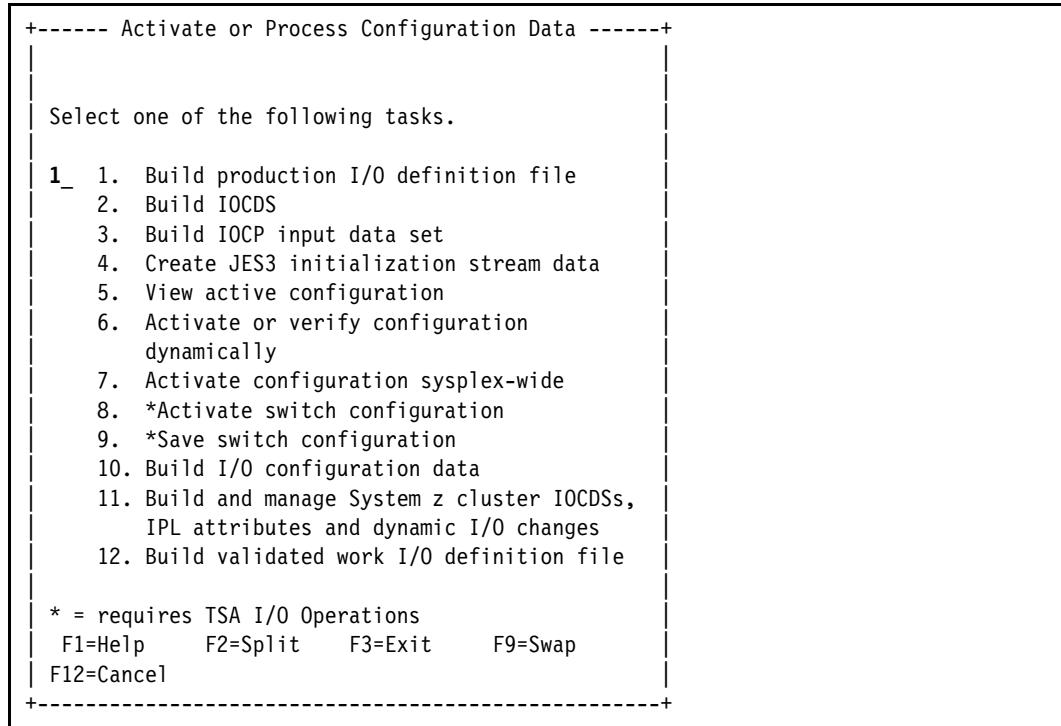

Figure 5-2 Activate or Process Configuration Data: Build production IODF
2. The Activate or Process Configuration Data panel is displayed (Figure 5-2). Select option **1. Build production I/O definition file** and press **Enter**.